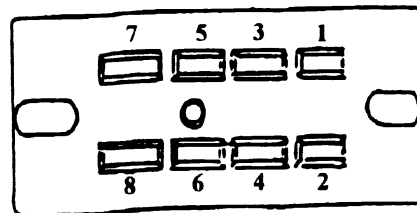

Figure 3
2. Remove the terminal from location 3 of changer socket (See figure 3 above) using removal instructions on page 3.
4. Remove terminal from location 7 of changer socket (See figure 3, page C1) using the removal instructions on page 3.
6. Insert wire #3 of the conversion harness in changer socket location 3. (See figure 3, page C1.)
7. Insert wire #4 of the conversion harness in changer socket location 4. (See figure 3, page C1.)
8. Insert wire #7 of the conversion harness in changer socket location 7. (See figure 3, page C1.)
9. Insert wire #8 of the conversion harness in changer socket location 8. (See figure 3, page C1.)